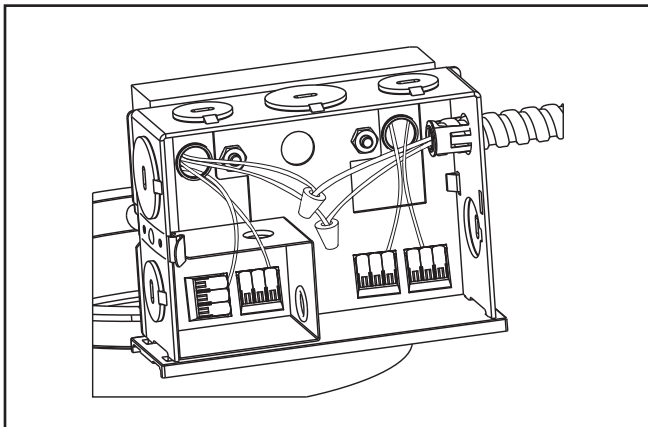

Figure 9
1. Provide electrical service according to the "National Electrical Code" or your local electrical code to the junction box (located on the plasterframe). Supply wire insulation must be rated for at least 90°C. The junction box is listed for (4) #12 AWG (two in, two out) 90°C conductors and feed thru branch wiring for type IC and Plug in drivers for 120/277V only. For all other cases (8) #12 AWG (four in, four out) 90°C conductors and feed thru branch wiring for 120/277V only.
2. Remove junction box cover (Figure 9).